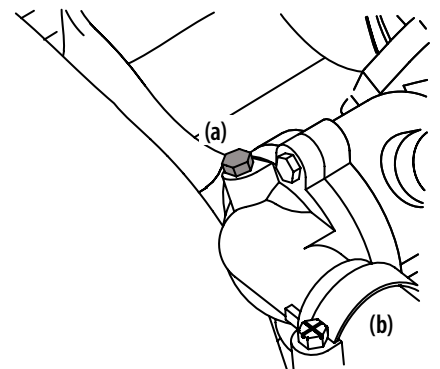

Figure 5-24
4. Remove the second bleeder screw (a) where the radiator hose (b) connects to the engine and let the engine run until a steady stream of fluid comes out of the bleeder screw (a) hole indicating there are no more air pockets in the coolant system. Replace the bleeder screw (a). See Figure 5-24.